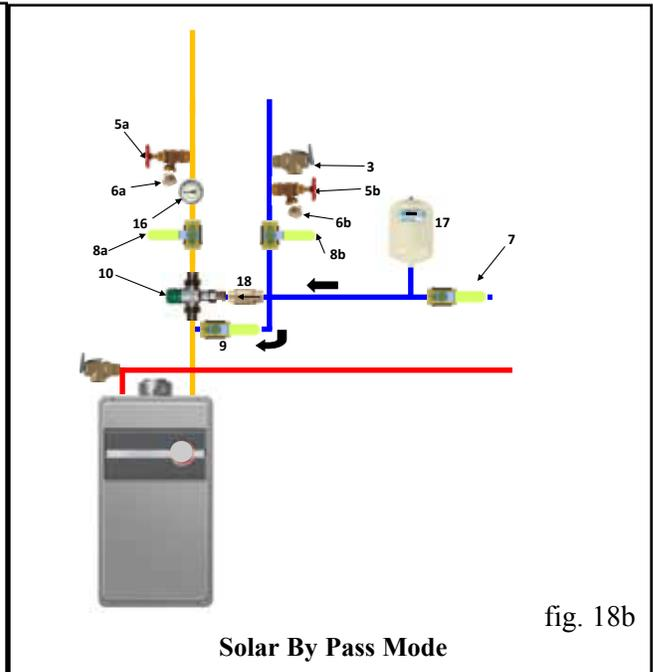

fig. 18b
8.1 Set the valves in the bypass assembly to solar bypass mode by turning the valves to the position shown in figures 18b, 19b, 20b, 21b, or 22b.